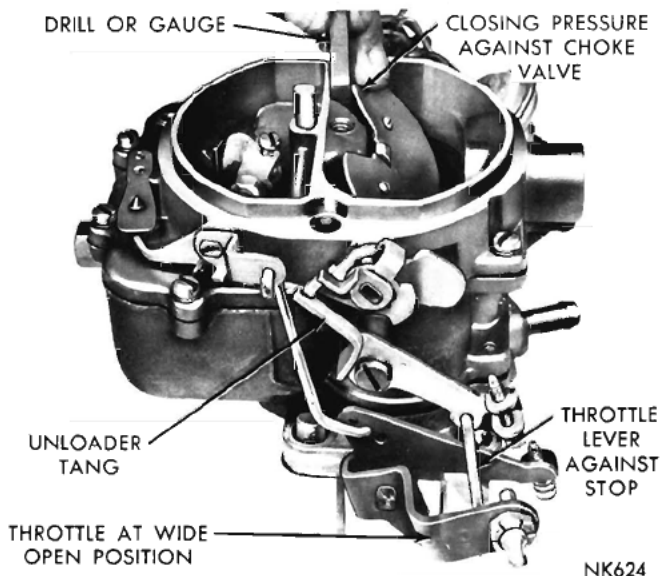

Fig. 14—Measuring the Choke Unloader Setting
(1) Hold the throttle valves in the wide open position. Insert Tool T109-31 (or a 1/4" drill shank) between the upper edge of the choke valve and the inner wall of the air horn, as shown in (Fig. 14).